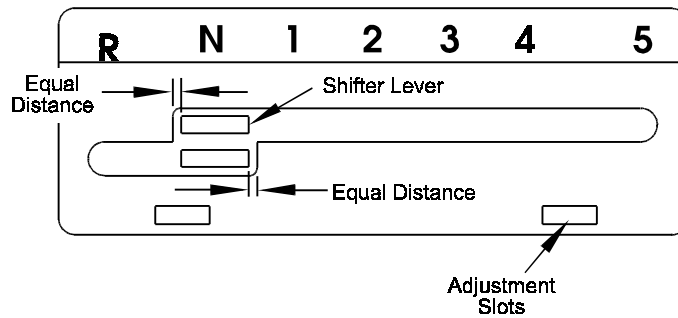

FIG. 8
- c) Shift to neutral position. Lever should not contact the left edge of the upper slot. Push lever down. Lever should not contact the right edge of the bottom slot (See Figure 8). Shifter plate can be adjusted side to side to adjust position of lever relative to the slot in plate. Loosen the two bolts securing the shifter plate to the shifter lever legs. Adjust shifter plate and retighten bolts.